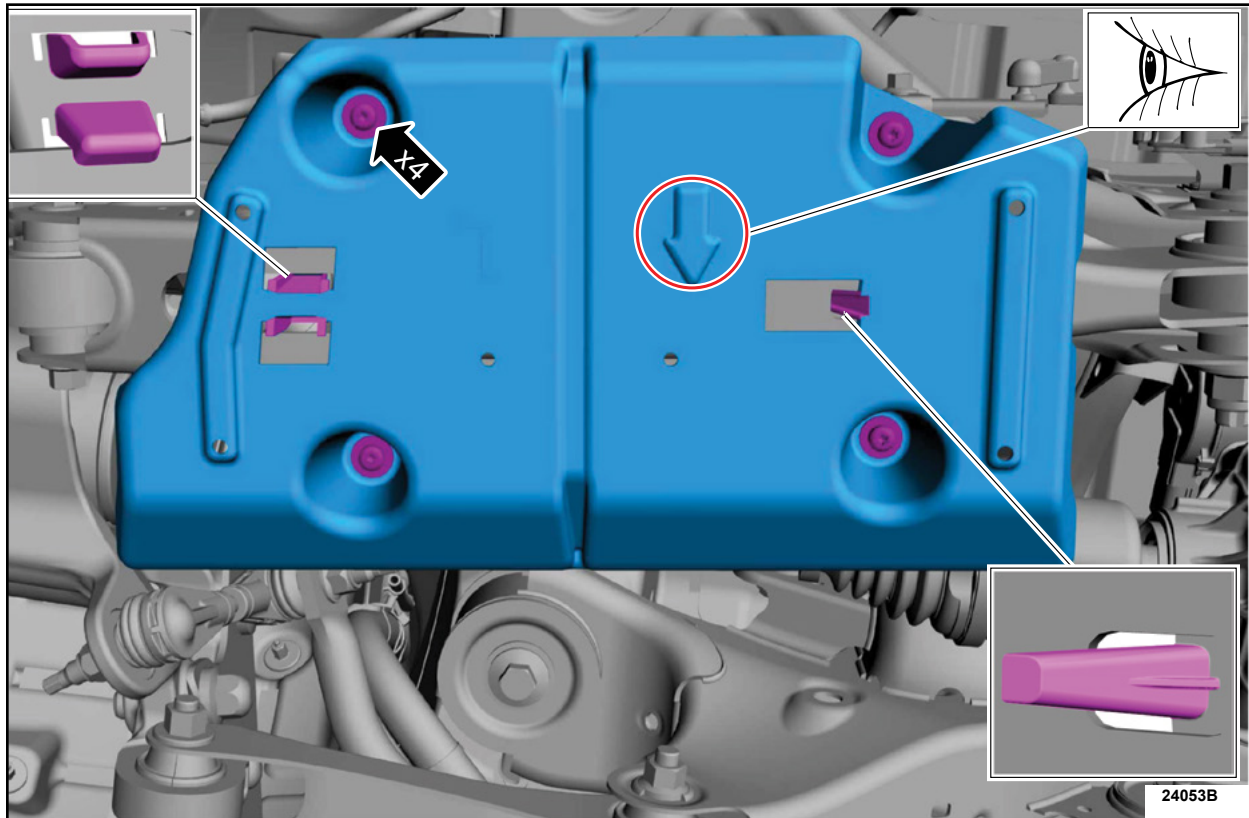

FIGURE 1
6. Remove the fasteners, release the tabs and remove the rear lower arm shield. See Figure 1.